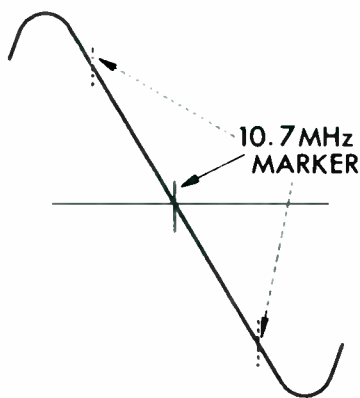

Fig. 4
2. If the ceramic filters except RED are used, 10.7MHz marker will not appear at the center of "S" curve (See fig. 4) in these cases disregard 10.7MHz marker.